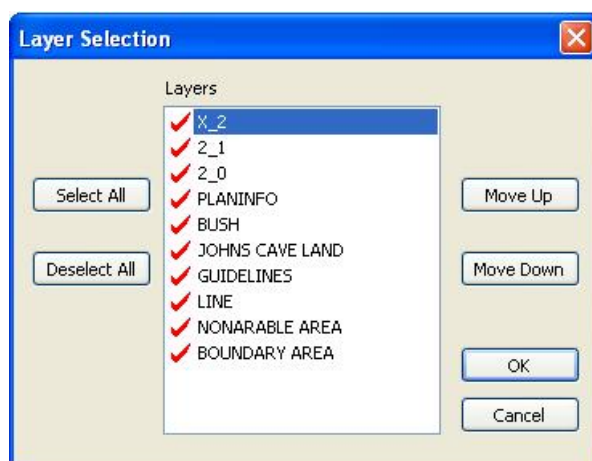

Figure 5-5: The Layers window
**Deselect all** means that the map view will be displayed blank. Selected layers have a red tick next to them as in shown in Figure 5-5. You can select/deselect individual layers by clicking on the name.